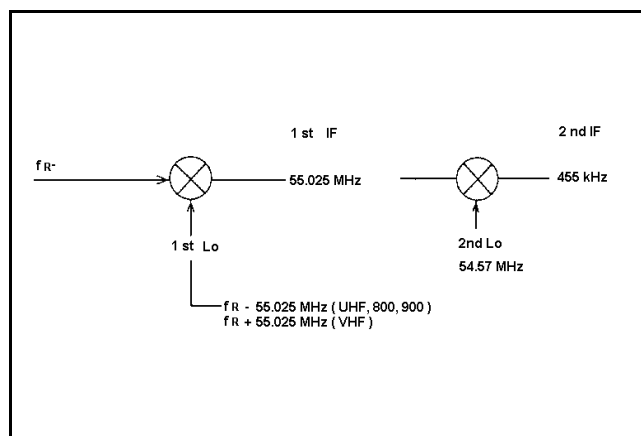
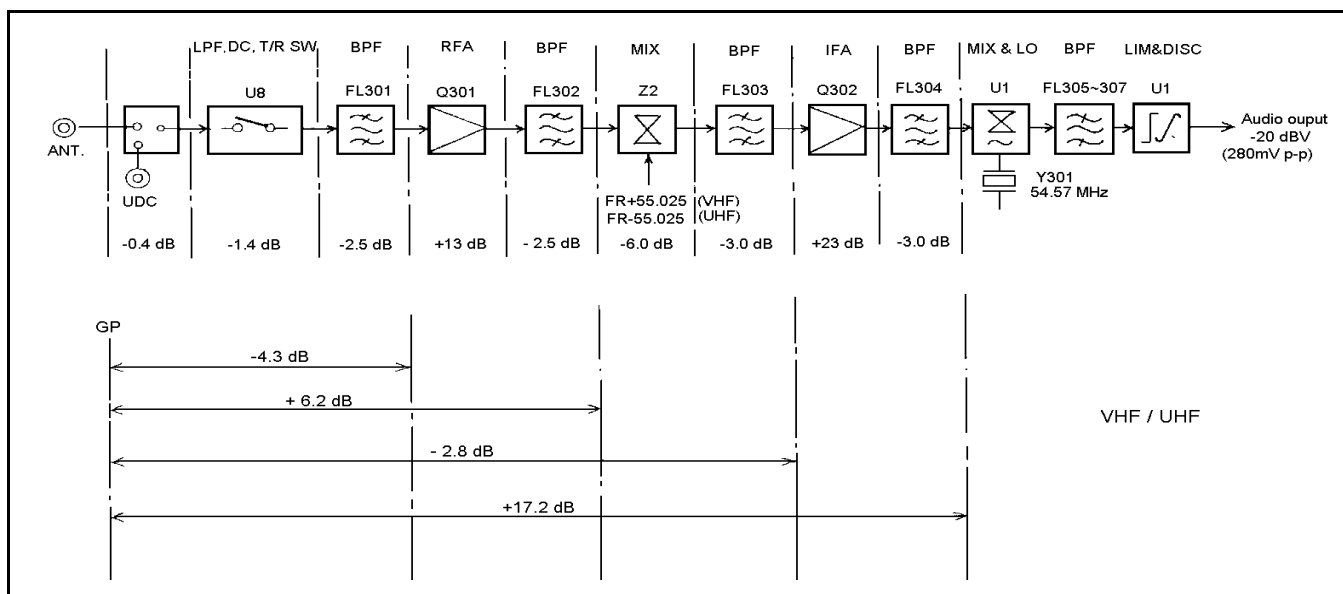

Figure 7 - Frequency Relationship Diagram
Figure 8 - Typical Level Diagram
- a. Level Diagram: A frequency Relationship Diagram is shown in Figure 7 and a Typical Level Diagram is shown in Figure 8.
- (1) C318 is provided for the adjustment of the second local oscillator.
- (2) When the desired channel frequency with standard modulation is applied to the antenna terminal, adjust C323 for maximum output at RX Audio.
- a. Check the Local Oscillator frequency. Check the frequency after connecting a frequency counter through a 1 PF capacitor to the collector of Q103. The frequency relation at various stages is shown in figure 8. If a frequency error is 5 PPM (VHF/UHF)(1.5 PPM (800/900 MHz)) or more in the temperature range of 20 to 25C, adjust the frequency of VCTCXO (Z1). The frequency of VCTCXO is 13.2 MHz.